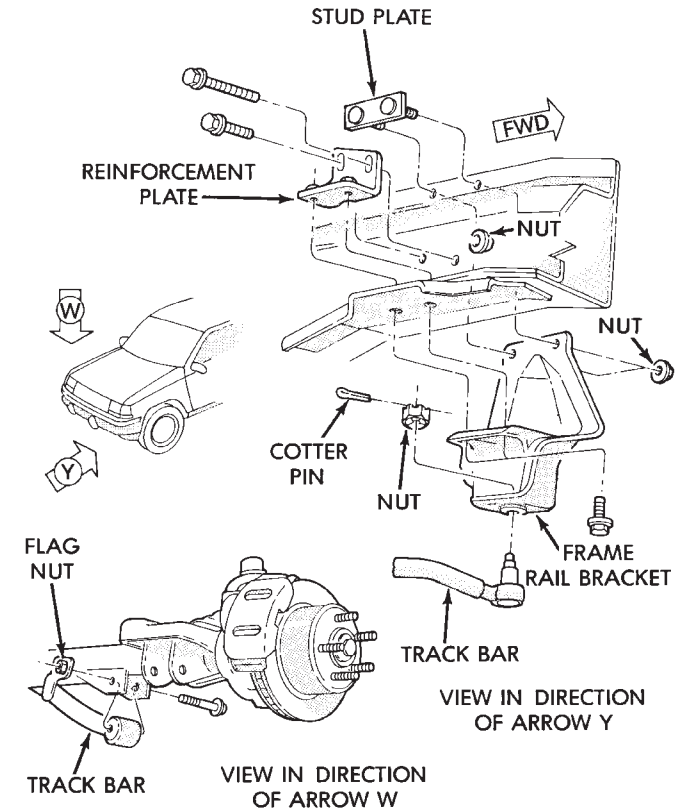

Fig. 8 Track Bar
- (1) Raise and support the vehicle.
- (2) Remove the cotter pin and nut from the ball stud end at the frame rail bracket (Fig. 8).
- (3) Use a universal puller to separate the ball stud from the frame rail bracket.
- (4) Remove the bolt and flag nut from the axle shaft tube bracket (Fig. 8). Remove the track bar.